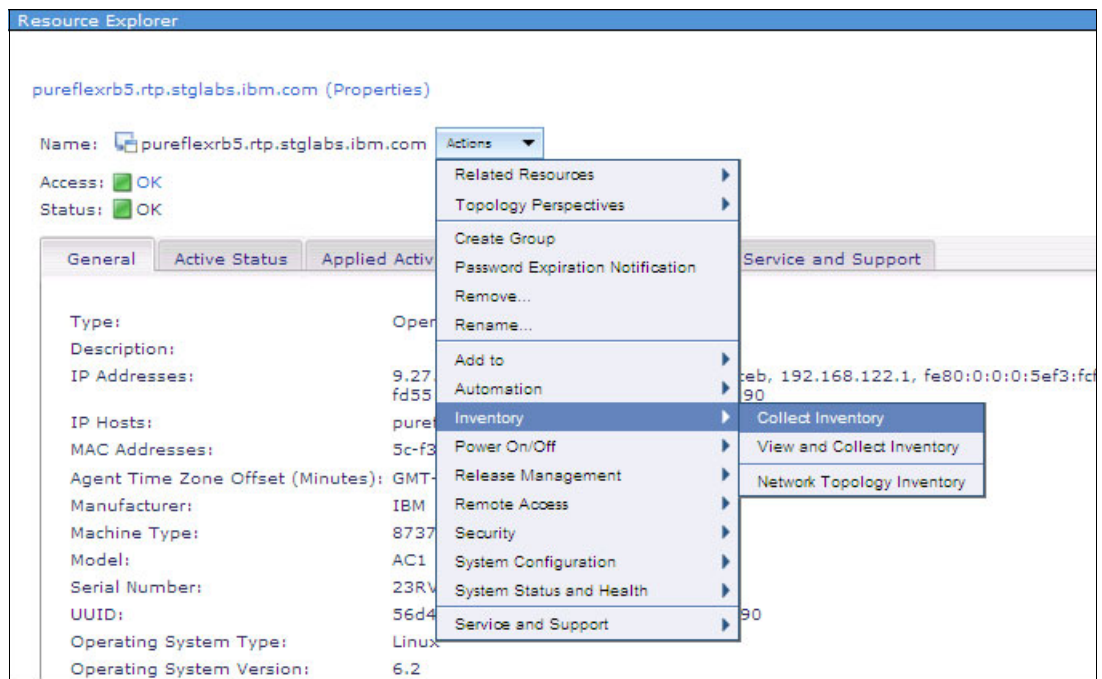

Figure 9-15 Collect Inventory on KVM host
- Click **Actions** → **Inventory** → **Collect Inventory** as shown in Figure 9-15.